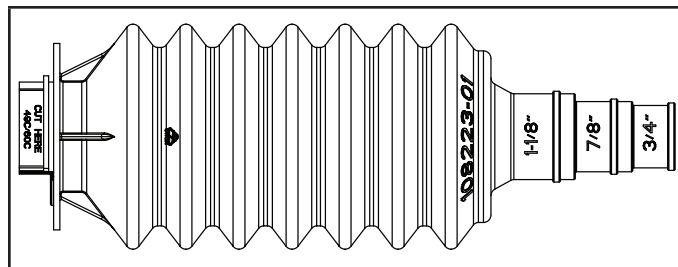

FIGURE 4. Suction Line Set Joint Sleeve
- 2 - Determine the refrigerant suction line size. For suction lines of 7/8" or 1-1/8", trim the smaller end of the larger line set joint sleeve accordingly to accommodate the refrigerant piping (see figure 4).
NOTE – For sizes 49C and 60C, cut off marked section on line set joint sleeve (see figure 4)